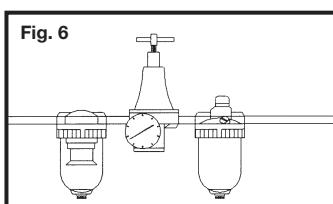

Fig. 6
**8. Use clean, dry, regulated,** compressed air at 70 to 120 PSI, (4.8 to 8.3 BAR). Fig. 6.